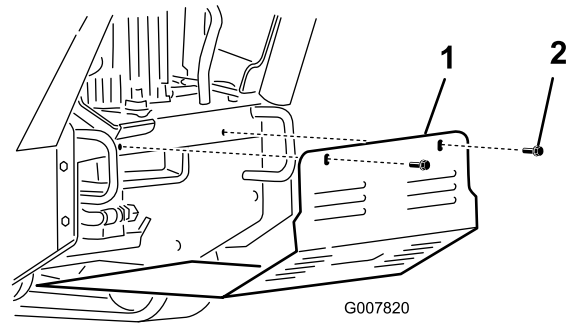

Figure 26
2. Remove the two bolts securing the bottom shield (Figure 26).
2. Slide the bottom shield into the machine so that it rests on all 4 tabs (Figure 26).